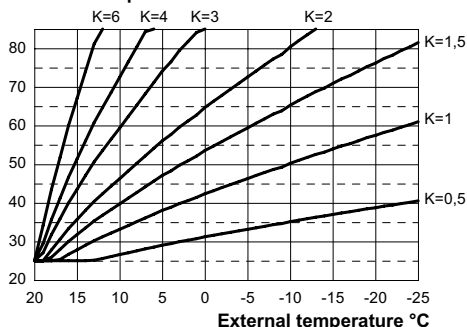

Fig. 8.6
If the boiler is **EQUIPED** with the remote control (optional) refer to Fig. 8.6. In this case K setting must be done from the remote control.
The K coefficients is a parameter that increases or reduces the boiler flow temperature when the outside temperature changes. When installing the external probe it is necessary to set this parameter based on the efficiency of the heating system in order to optimise the flow temperature (Fig. 8.6).
E.g. In order to have a flow temperature at the heating system of 60°C with an external temperature of -5°C, set a K at 1.5 (sectioned line in Fig. 8.6).
- Using keys 13 or 14 it is possible to change the value of parameter 15 from a minimum of **01** to a maximum of **60** based on the selected bend of the K coefficient in Fig. 8.6 (the value read on the display corresponds to K coefficients decimal values).